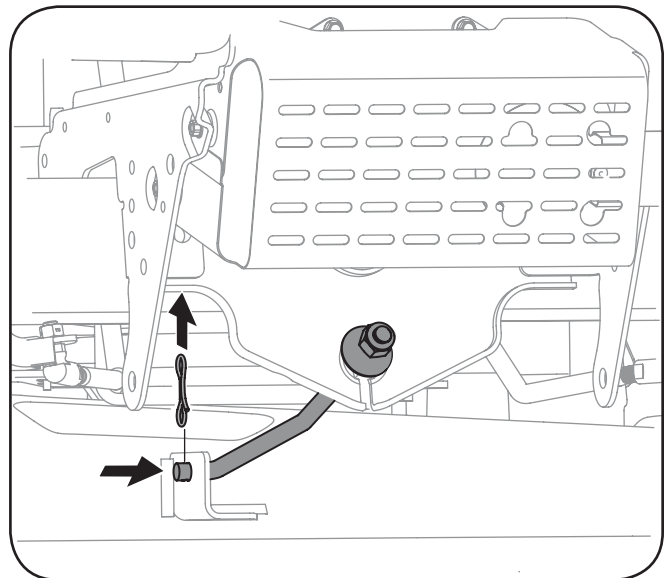

Figure 7-3
8. **On 42" decks:** Remove the bow-tie cotter pin securing the deck stabilizer rod to the deck. Slide the deck lift rod from the mounting weldment on the deck as seen in Fig. 7-3.
**On 46" Decks:** Remove the bow-tie cotter pin and flat washer securing the deck stabilizer rod to the deck. Slide the deck lift rod from the mounting weldment on the deck as seen in Fig. 7-3.